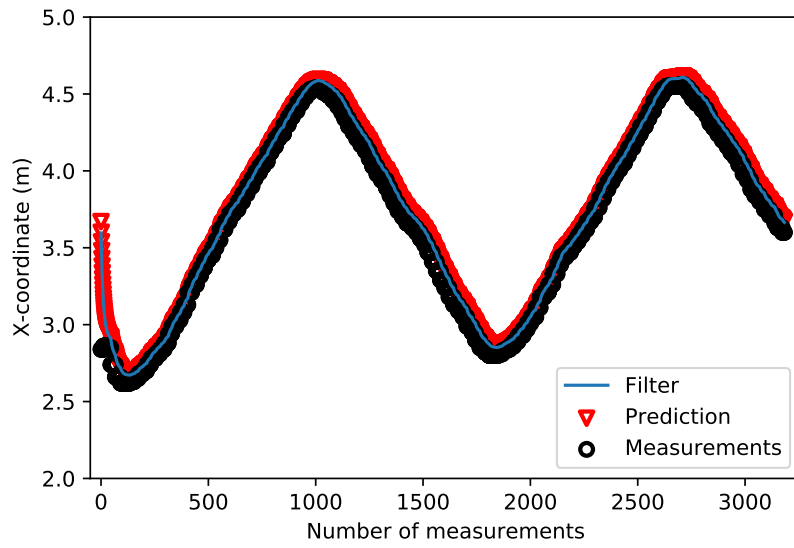
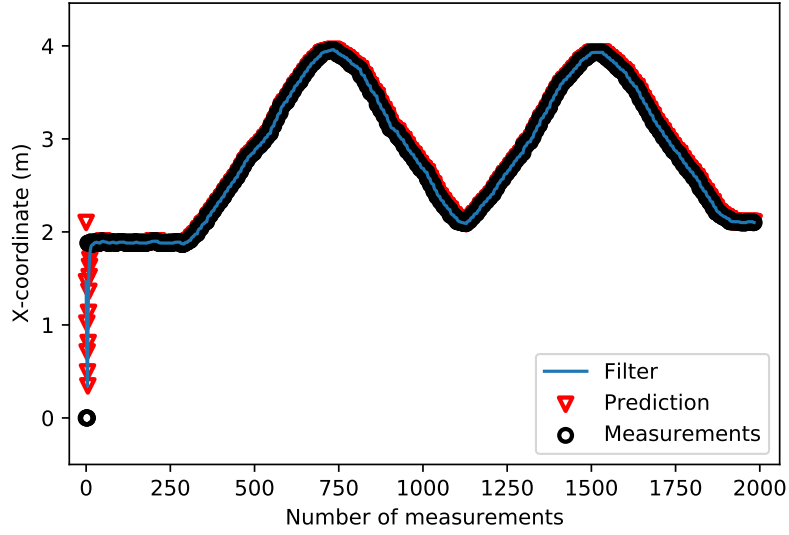

Figure 5: Plot when  $\text{sensor\_var} = 0.3 \times 2$  for partial round movement with hard-coded velocity
Figure 6: Plot when  $\text{sensor\_var} = 0.077 ** 2$  for perfect round movement with velocity acquired from rostopic */velocity*
2. partial round movement with hard-coded velocity as shown in Figure 5 and perfect round movement with actual velocity from rostopic *velocity* as shown in Figure 6 and 7